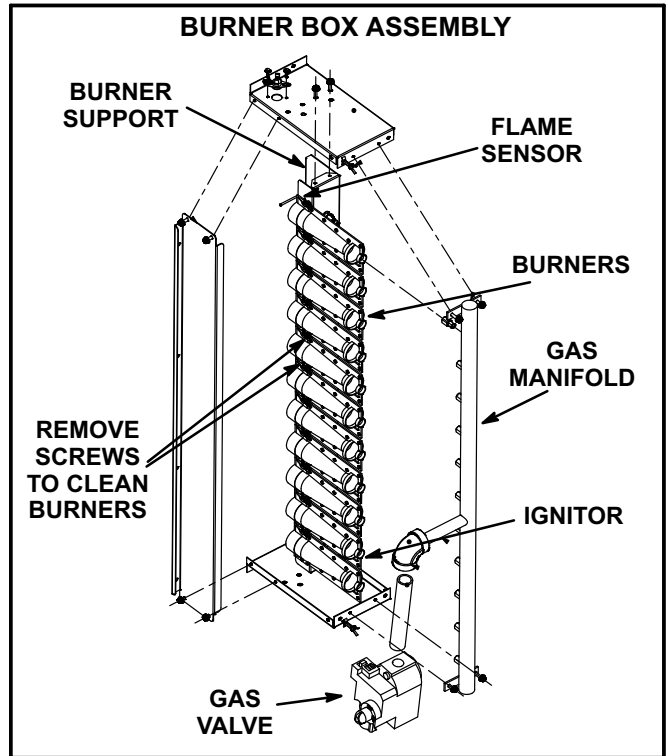

FIGURE 5
- 5- Remove and retain two screws securing burners to the burner support. See figure 5. Clean as necessary. Replace burners and secure with retained screws.